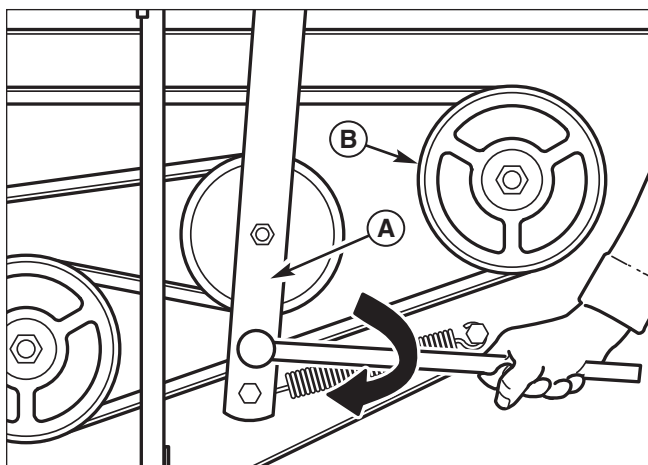

Figure 52. Spindle Drive Belt Removal
3. Using a 1/2" breaker bar, place the square end in the square hole located near the end of the idler arm (A, Figures 52). Carefully rotate the breaker bar **CLOCKWISE**, which will relieve the tension on the belts exerted from the idler arm.
4. Remove the belt from the trim side spindle pulley (B, Figure 52).